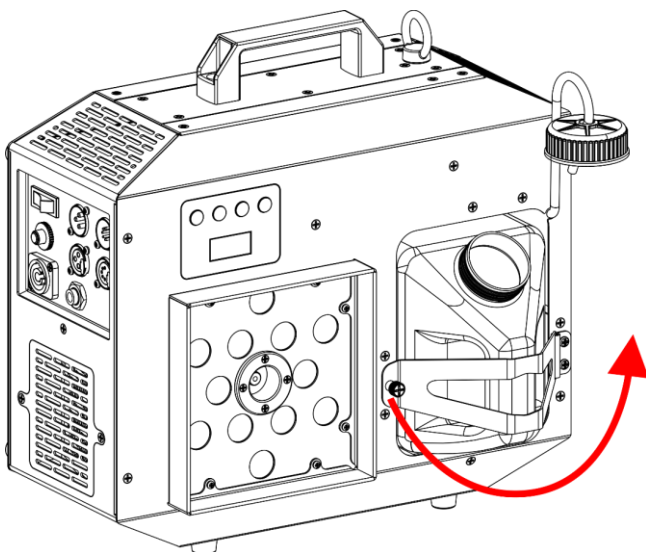

Fig. 08
- 03) Tilt the **bracket for the liquid tank (03)**, as shown in Fig. 08.